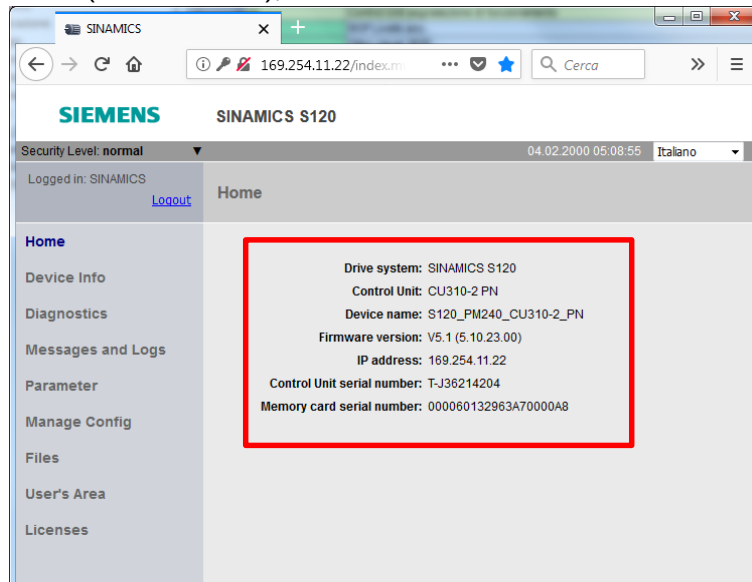

Figure 19 SIEMENS S120, General Menu
1. *Home* displays all the sections of your SIEMENS interface and the main features of the inverter like Drive System, Control Unit, Device name, Firmware version (CFC version), IP address (169.254.11.22), serial number of the Control Unit and of the Memory card. (Figure 19)